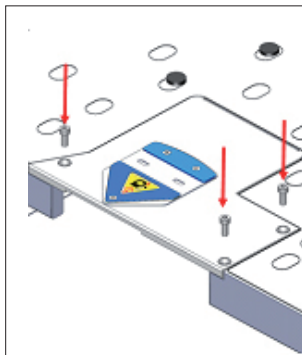
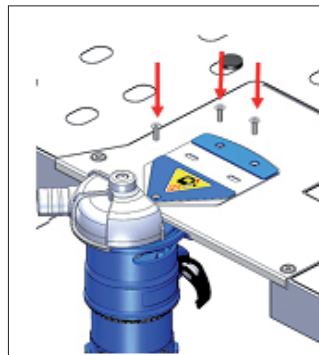

Fig. 15
Fig. 16
- Put the trimmer adaptor plate into the table and tighten it onto the table surface by the set screws (see Fig 15) follow the direction shown in the figure putting the power trimmer into the fixing rack; put the three screws through the trimmer rack and tightened into the three screw holes as shown by the arrows in (Fig 16).